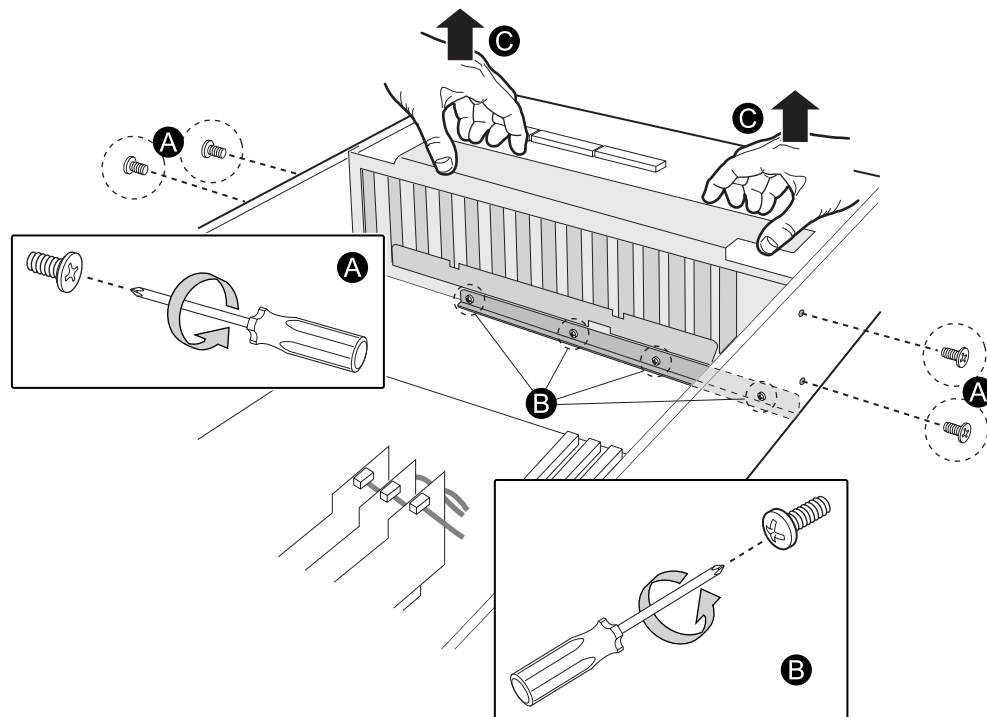

Figure 10. Removing the Backplane Board from the System
- A. Using a Number 1 size Phillips Screwdriver, remove the two Phillips screws on each side of the system that hold the backplane board to the side of the chassis. See Figure 10. Set these screws aside. They will be re-installed later.
- B. Using a Number 1 size Phillips Screwdriver, remove the four Phillips screws from the steel lip that holds the backplane board in place. See Figure 10. Set these screws aside. They will be re-installed later.
- C. Carefully remove the backplane board from the storage system. Pay attention to sharp edges on the backplane board. See Figure 10.